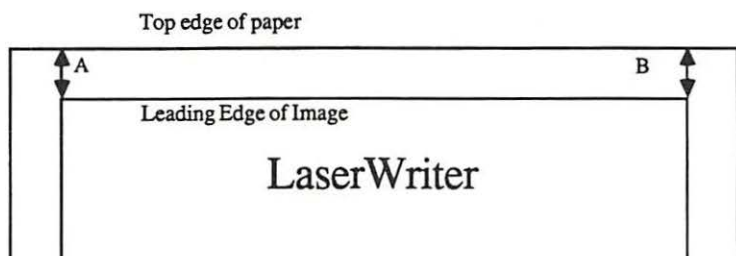

FIGURE 3-5
2. **Horizontal line specifications:** Measure the distance from the top left and right corners of the image to the top edge of the paper (See Figure 3-5). The difference between the two measurements (left and right) should be no more than 1 millimeter.